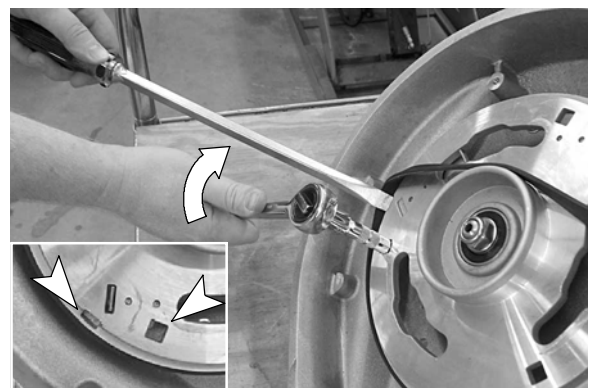

FIG. 70
- To install belt, use a socket driver ratchet with an extension and a large flathead screwdriver as shown. The hub driver is equipped with tool slots (Figure 70).